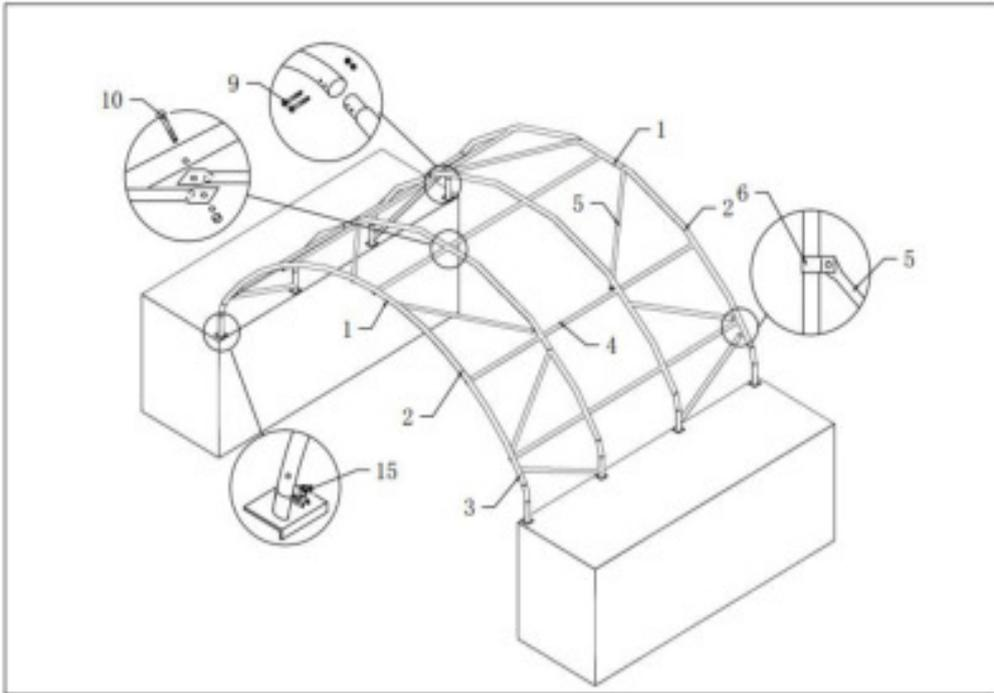

Figure 4
5. Assembly the arches one by one, then the main frame will be finished like Figure 4.